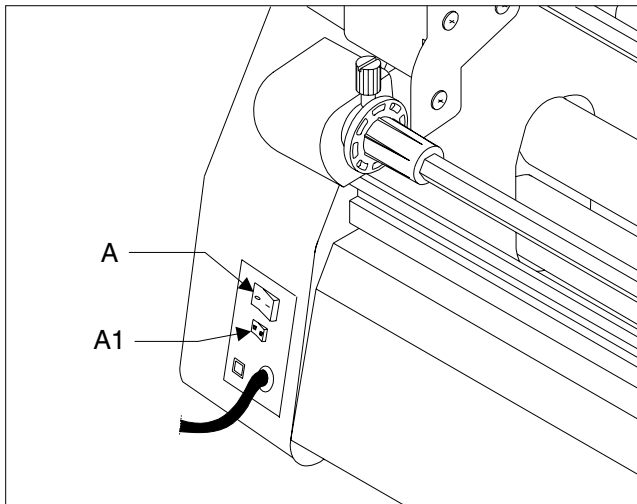

Fig. 1
**A. POWER SWITCH:** Fig. 1. Located at the back of the machine applies power to the laminator. The LED display panel will illuminate when position marked "I" is pushed. The off position, marked "O", removes power from the laminator.
**A1.FAN SWITCH:** Fig. 1. Located at the back of the machine applies power to the fans when position marked (⏻) is pushed. The off position marked (⏻) removes power from the fans.